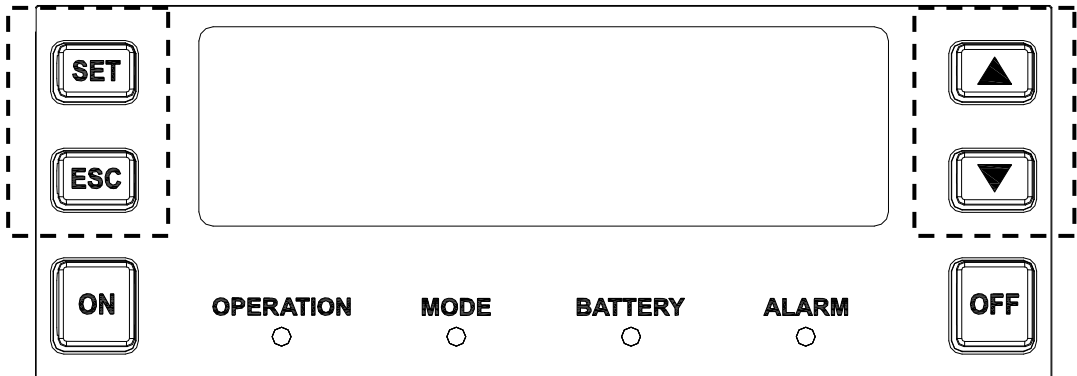

Figure 6-1 Panel
Figure 6-1 shows the panel used when setting of ①~⑱, and explains the operation as follows.
1. Push the SET button for 3 seconds. "Configuration" is displayed in LCD. At this time, the item of ① on the former page is displayed.